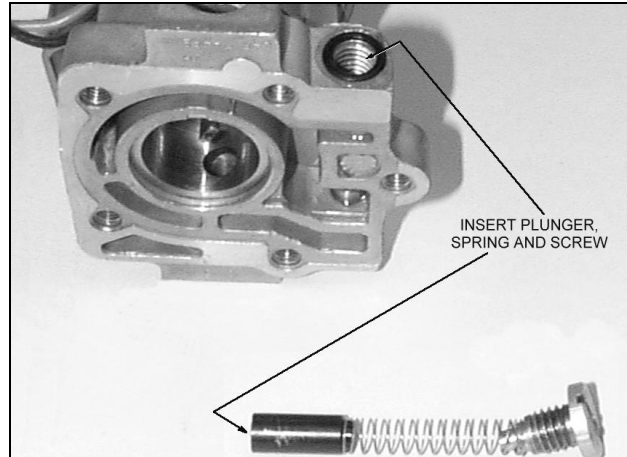

Figure 7
7. If the relief plunger is rusty, clean it with emery paper. The plunger must slide freely in the base. Check the plunger, spring, and o-ringed screw. Check that plunger is free in the slide. See Figures 7 and 8.